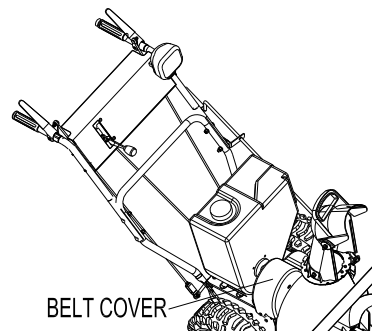

FIG 28
6.11.1 Loosen bolts and remove the belt cover. (FIG 28)